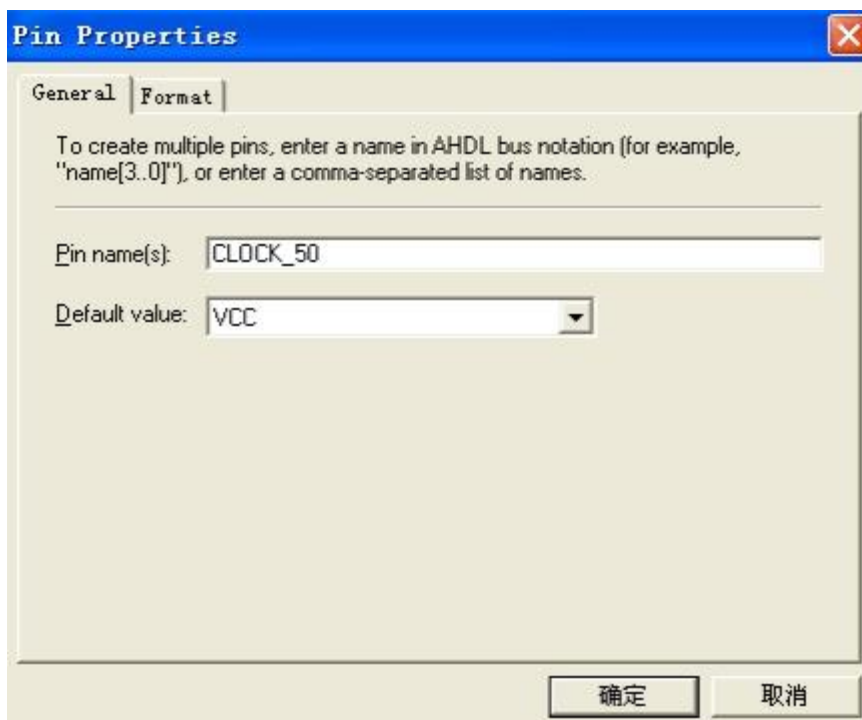

Figure 3-19 Change the input port name
- f. Change the pin name by double-clicking pin_name and typing CLOCK_50 (see **Figure 3-19**). This name correlates to the oscillator clock that is connected to the FPGA.